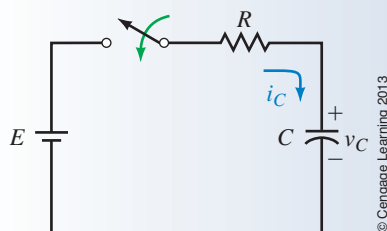

FIGURE 11-11
2. The switch of Figure 11-11 is closed at $t = 0$ s. If $E = 80$ V, $R = 4$ k Ω , and $C = 5$ μ F, determine expressions for v_C and i_C . Plot the results from $t = 0$ s to $t = 100$ ms at 20-ms intervals. Note that charging takes less time here than for Problem 1.
For the circuit of Figure 11-11, $E = 60$ V, $R = 2$ k Ω , and $C = 25$ μ F. The switch is closed at $t = 0$ s, opened 40 ms later and left open. Determine equations for capacitor voltage and current and plot.
For the circuit of Figure 11-11, how long will it take for the capacitor to charge if $R = 2 \text{ k}\Omega$ and $C = 10 \text{ }\mu\text{F}$?